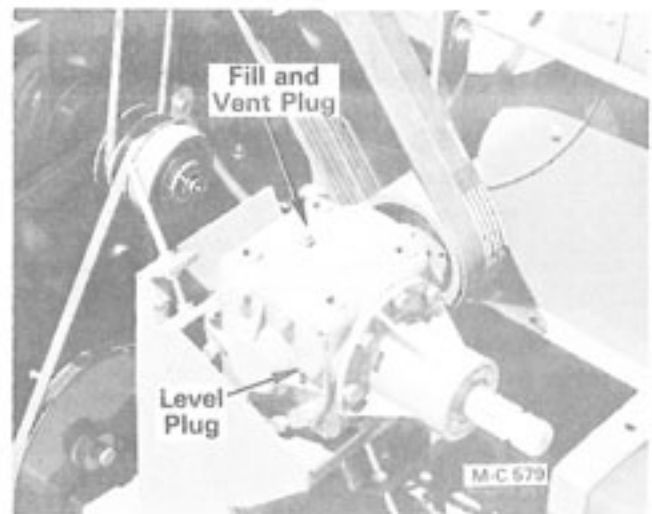

Figure 30 - PTO Front and Irrigation Drive
1. **All Model 675B and 975B** - Check the oil level in the gear box. Figure 30 shows PTO front and